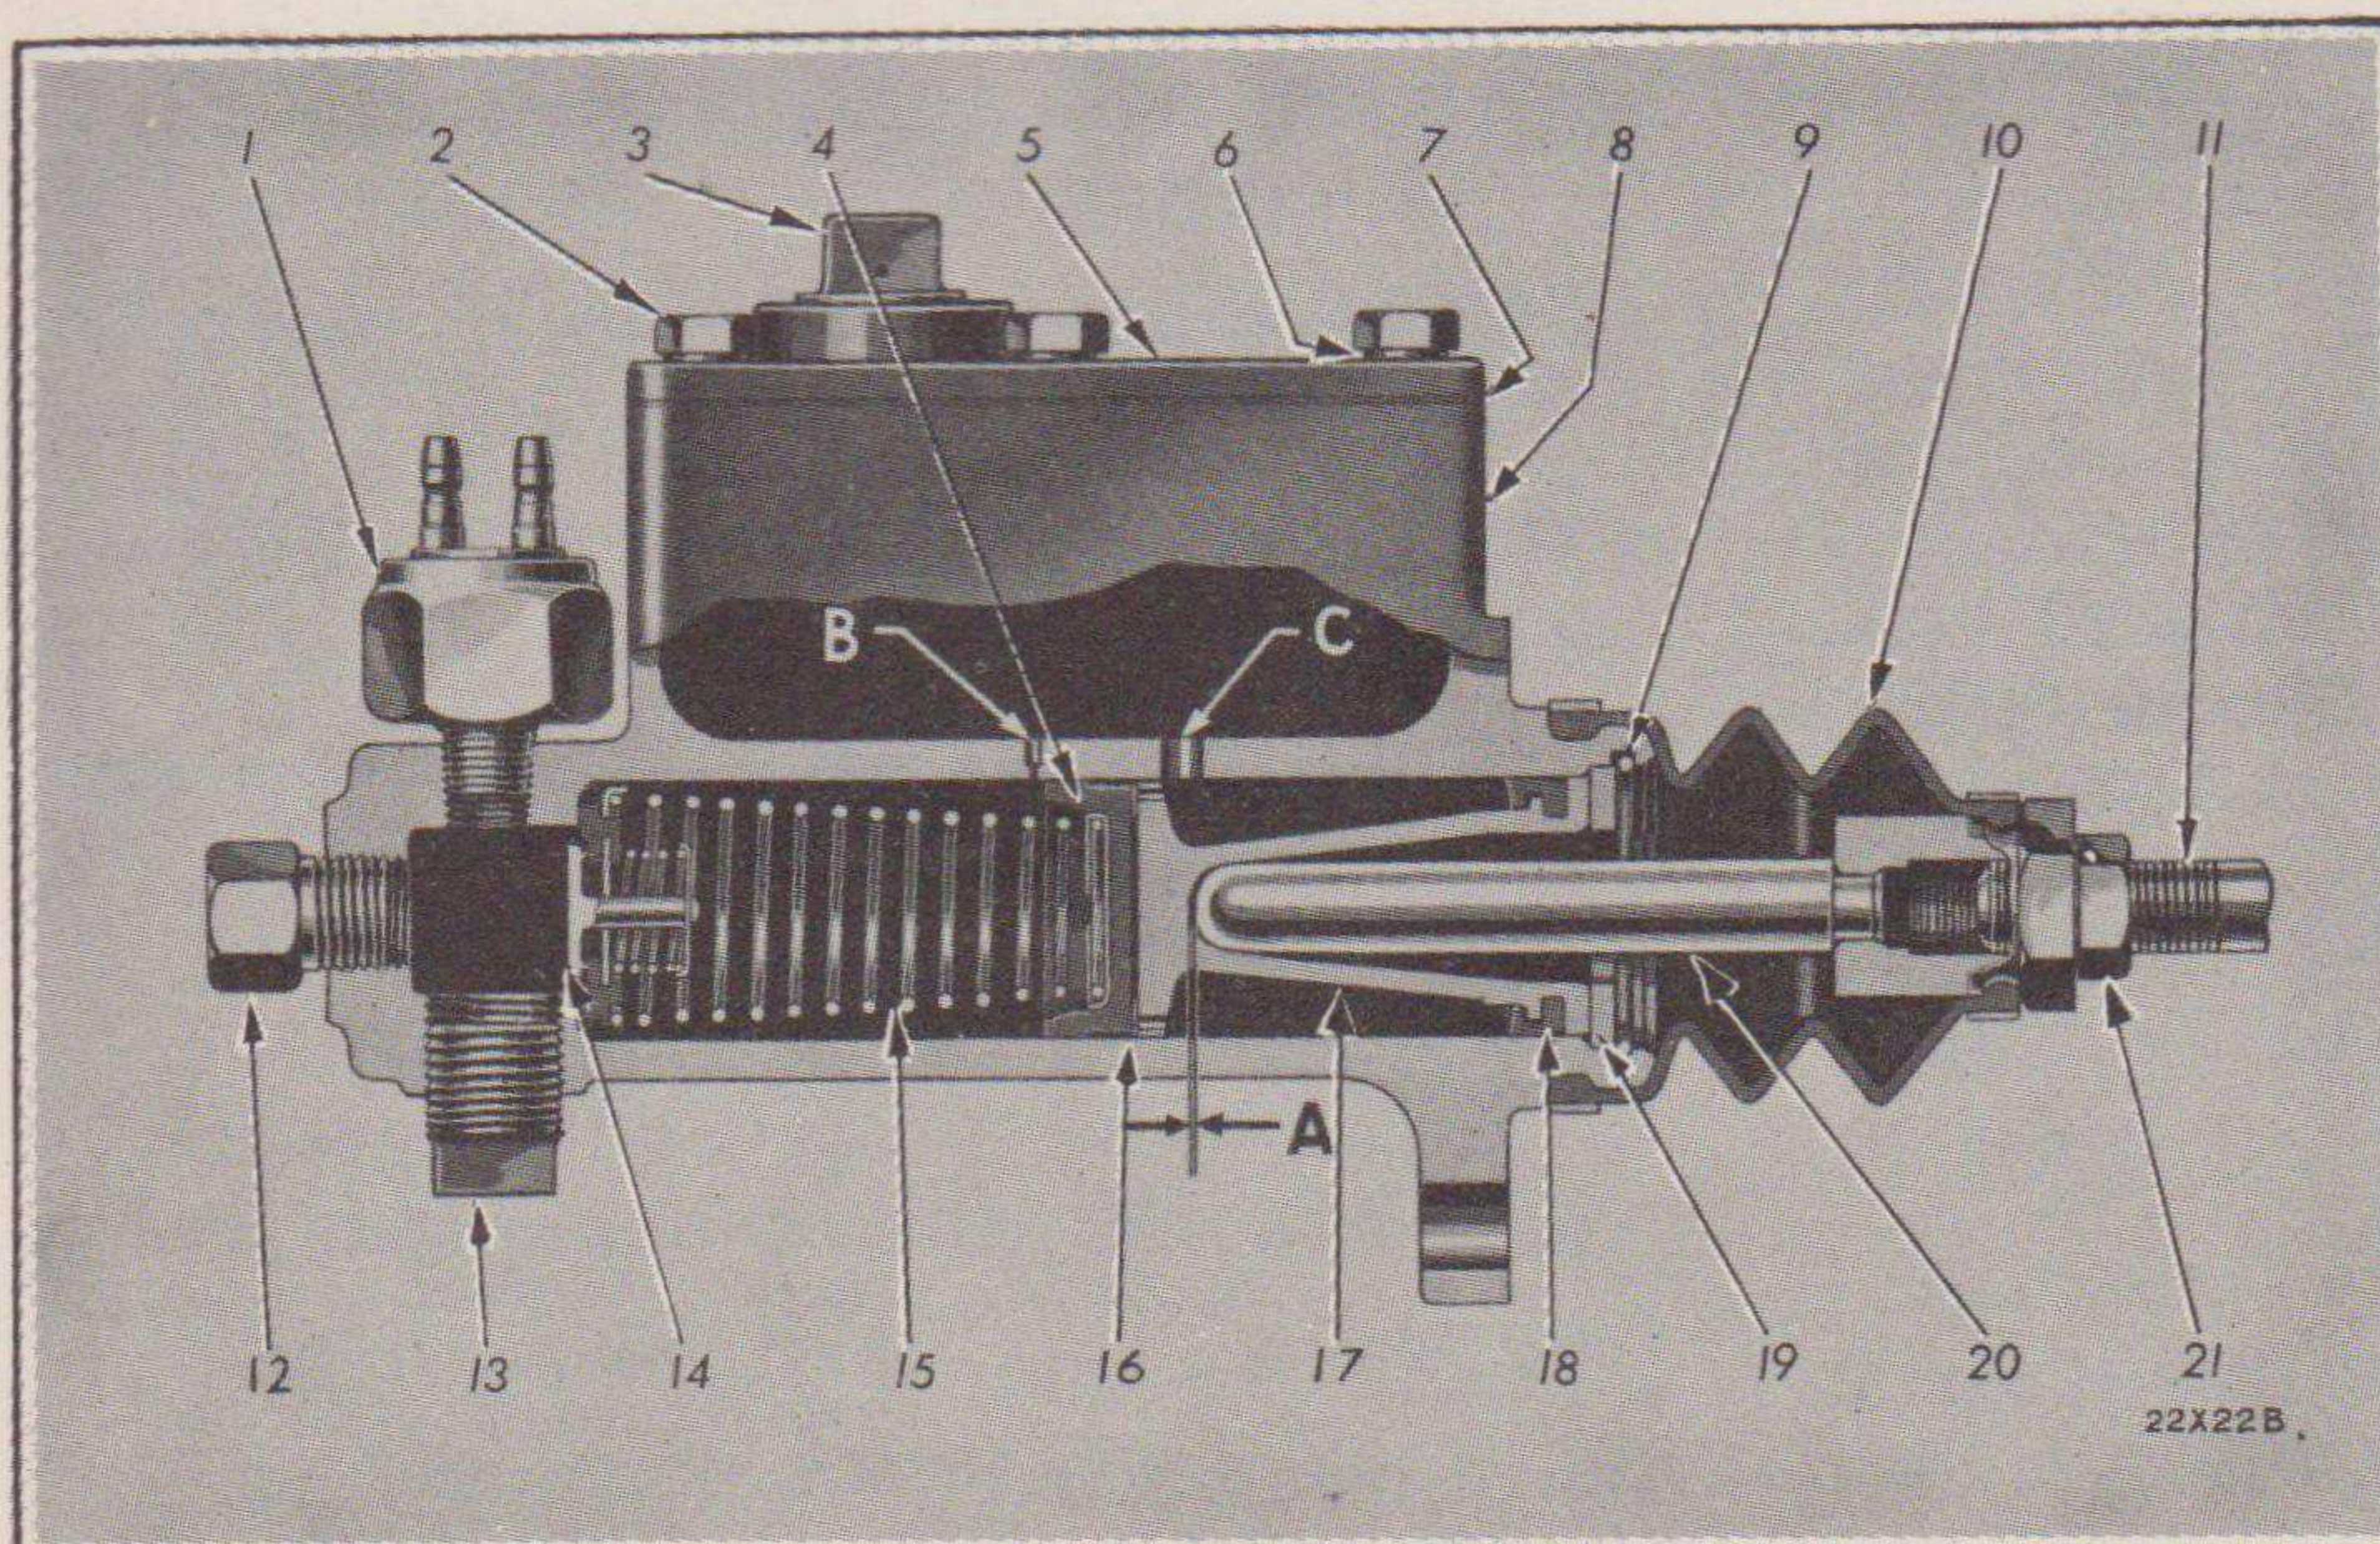

Fig. 83—Brake Master Cylinder
**IMPORTANT:** Unless replacement of a piston push rod or push rod end is necessary, do not change adjustment of the end piece. This is seldom, if ever, required. The factory adjustment is correct and permits the piston cup to just pass the relief port (B, Fig. 83) and yet avoid covering the supply port when the pedal is in the released position.
- (h) Remove the lock ring in the open end of the cylinder. See Figs. 83 and 84.